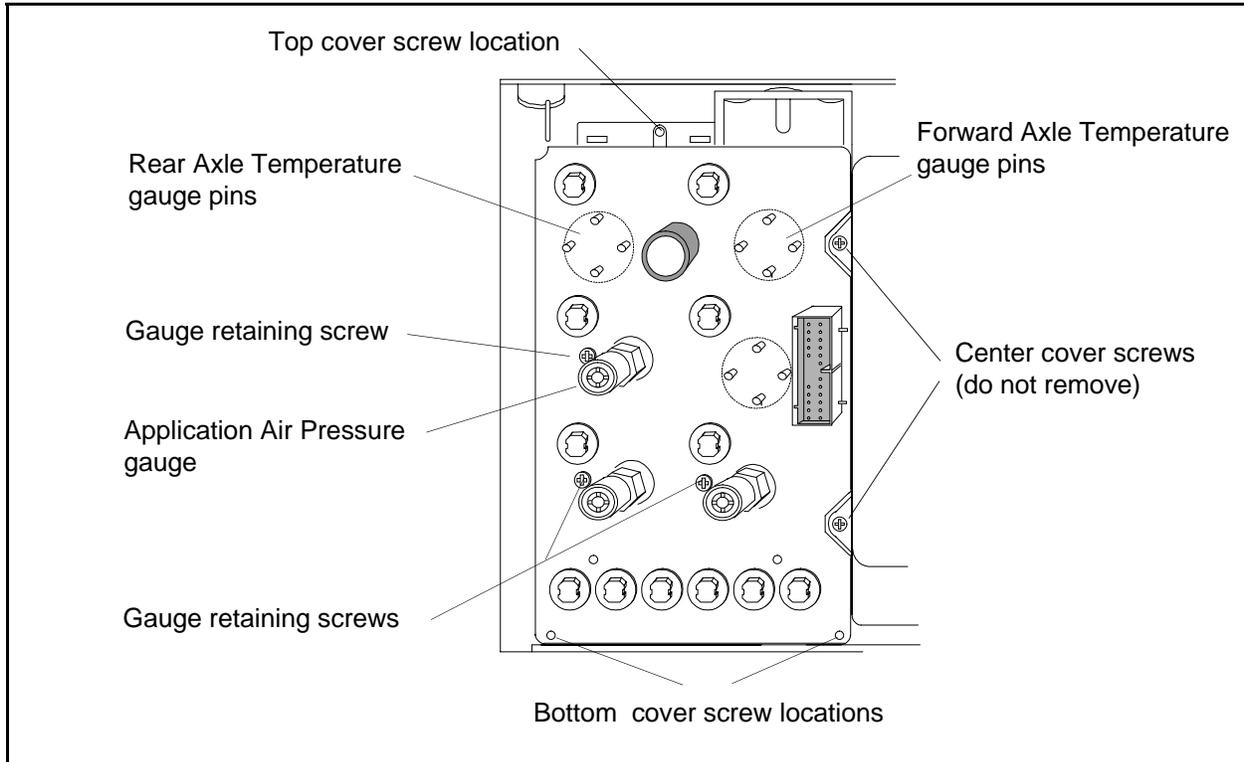

Figure 1 Right Circuit Board after cover removed
2.1 Removal (Refer to Figure 1)